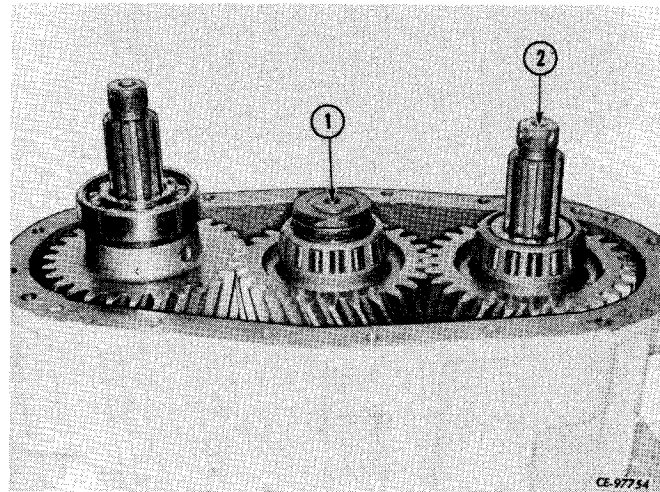

Figure 4-87
Remove idler gear (1, Fig. 4-87) and driven shaft (2) from case.
Install idler gear assembly (1, Fig. 4-87) and driven gear (2), into case.